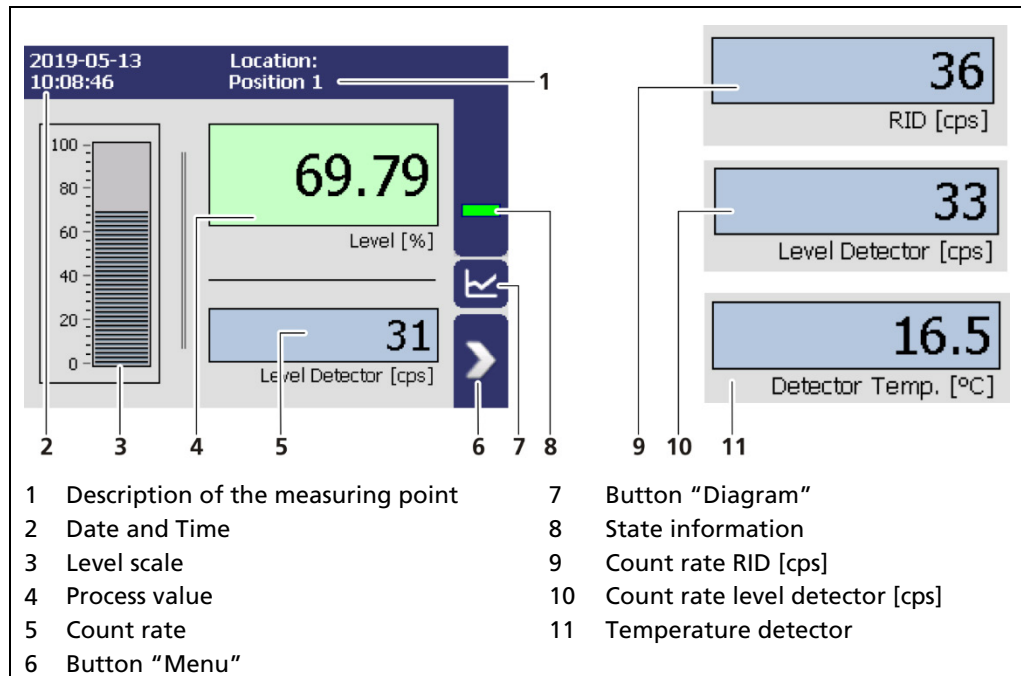
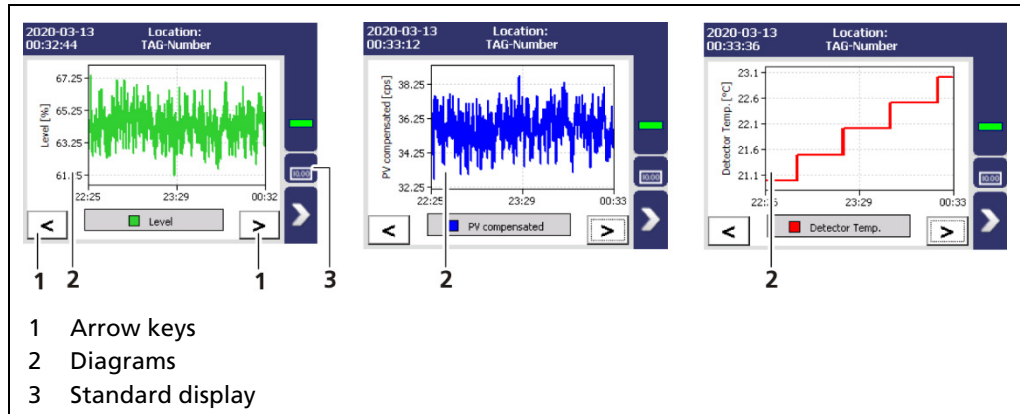
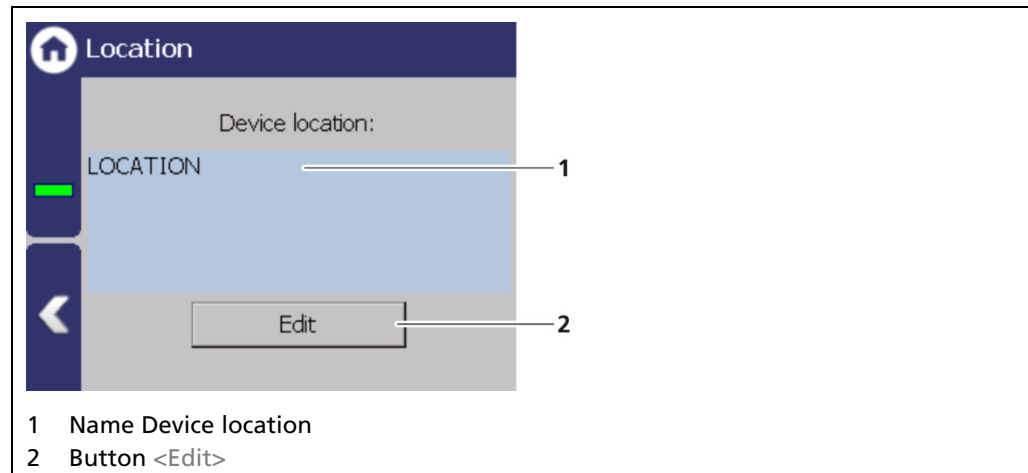

Fig. 26 Standard display of the EVU
Fig. 28 Diagram display of the EVU
Fig. 34 Device Location
Clicking the diagram symbol (Fig. 26, item 5) changes the view to the diagram display. The arrow keys (Fig. 28, item 1) are used to switch between the diagrams Level – Count Rate – Detector Temperature.
Clicking the display symbol (Fig. 28, item 3) changes the view to the standard display.
The location of the evaluation unit is displayed (Fig. 34, item 1) in the "Location" menu. The name can only be edited (7.2 Menu Access) in the access level "Standard". The Location is displayed on the EVU standard display (Fig. 26, item 1).